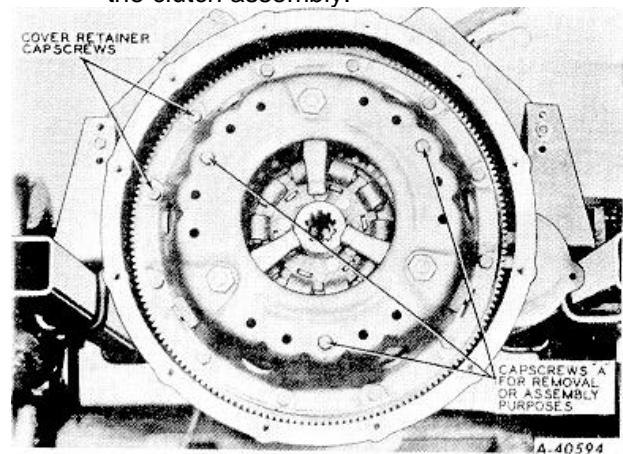

Fig. 37 Clutch Removal
- b. On the clutch assembly shown in Fig. 37 the clutch plate should be compressed with the three cap screws "A" (3/8" - 16 x 2") prior to removing the mounting cap screws. Otherwise, it is possible to distort the clutch cover. Loosen the clutch back plate-to-flywheel retaining cap screws and remove the clutch assembly.